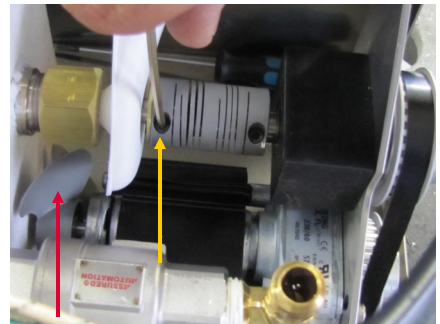

Figure 26
26. While replacing the agitator motor, be sure the fan blade, identified with the red arrow in Figure 26 is clear of the white drip tray. Tighten the set screw on the coupling, identified with a yellow arrow.